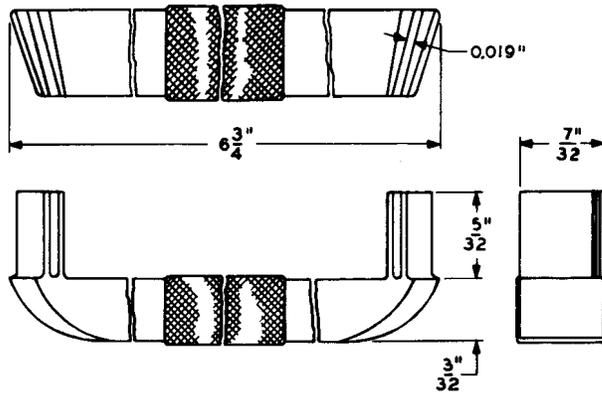

Fig. 8—648A Spring Adjuster Tool
2.09 **648A:** The 648A tool (Fig. 8) is a spring adjuster used on the KS-13835 readers and replaces the D-178347 adjuster.